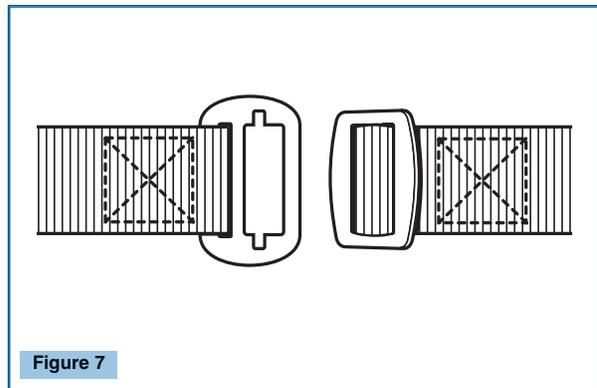

Figure 7
**7. Inspect easy-connect buckles.** Check easy-connect buckles (square rings) for distortion, sharp edges, and cracks. For stitched attachment points, check that stitching is not broken, burned, cut, or pulled. (See Fig. 7)